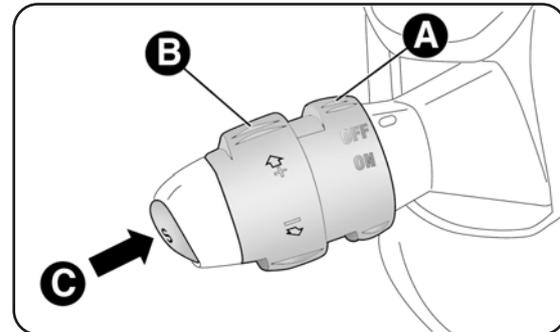

fig. 31
Turn the ring nut A-fig. 31 to ON.
- turn the ring nut A-fig. 31 to ON and press the accelerator until the vehicle reaches the desired speed;
- press button C-fig. 31.
- by temporarily turning ring nut B-fig. 31 to (+).
- by keeping ring nut B-fig. 31 turned to (–) until the new speed is reached; it will then be memorised automatically.
Turn the ring nut A-fig. 31 to OFF or turn the ignition key to STOP. The device is automatically turned off in one of the following cases:
In case of malfunction or if the device is faulty, turn the control A-fig. 31 to OFF and contact a Lancia Dealership, after checking that the protective fuse has not blown.